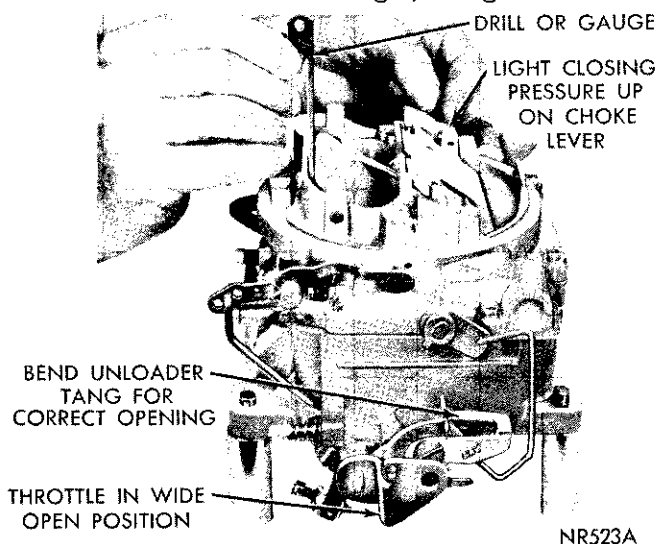

Fig. 14—Checking Choke Unloader (wide open kick)
(1) Hold throttle valves in wide open position. Insert specified drill (refer to Specifications), between upper edge of choke valve and inner wall of air horn (Fig. 14).
(2) With a finger lightly pressing against choke lever, a slight drag should be felt as drill is being withdrawn. If an adjustment is necessary, bend unloader tang on fast idle cam, using Tool T-109-22, until correct opening has been obtained (Fig. 14).